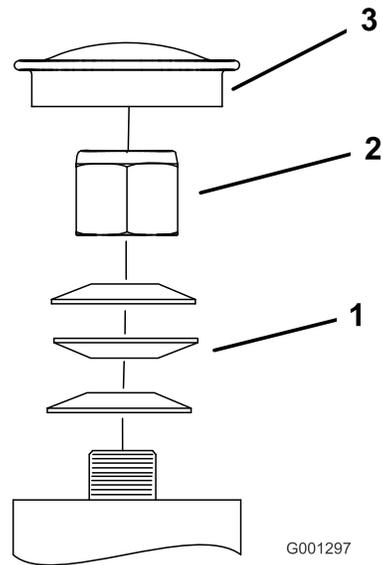

Figure 68
3. Remove the dust cap from the caster and tighten the locknut (Figure 68).
4. Tighten the locknut until the spring washers are flat and then back off a 1/4 turn to properly set the pre-load on the bearings (Figure 68).
Important: Make sure that the spring washers are installed correctly as shown in Figure 68.
5. Install the dust cap (Figure 68).